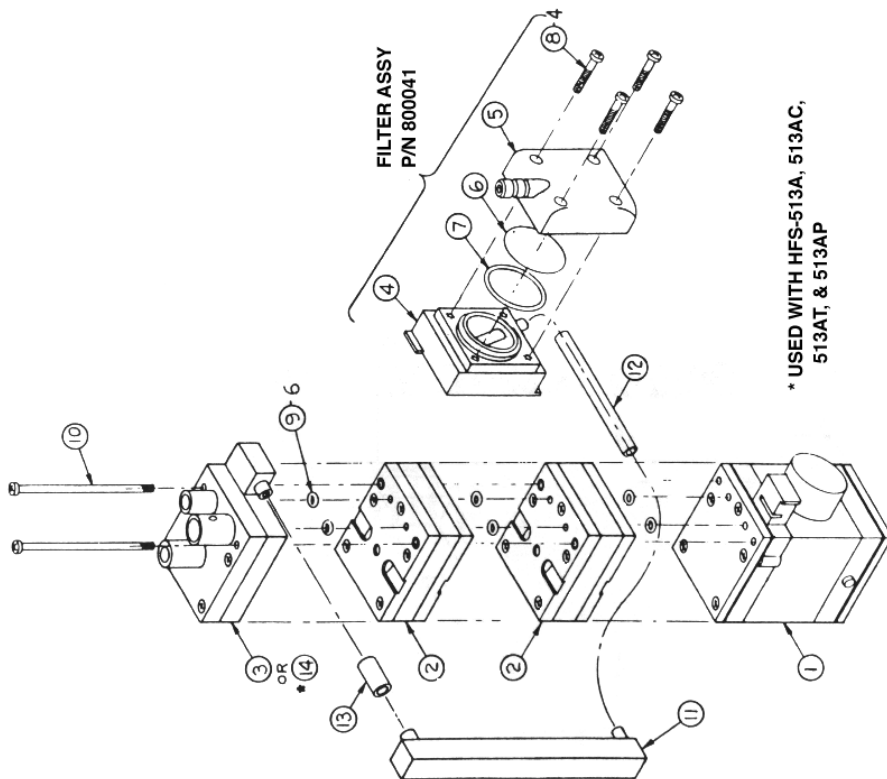

Figure 3
Refer to Figure 3. Under the normal operating conditions, the pump filter should be changed after approximately 250 hours of operation (or sooner). Failure to change the filter as it becomes dirty will decrease the pump back pressure capability and performance envelope. Blow all dust and debris from around the filter housing. Remove the 4 screws (8) and the front filter housing (5). Remove and discard the filter membrane (6) and the O-ring (7). Wash the filter housing in a mild soap and warm water solution, then blow it dry. Insert a new filter membrane and O-ring. Insert the 4 screws (8) and cross tighten until the front filter housing is secured to the rear housing within the case.